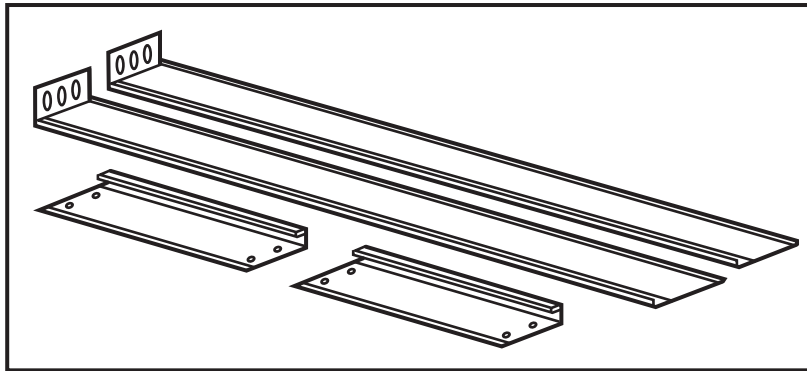
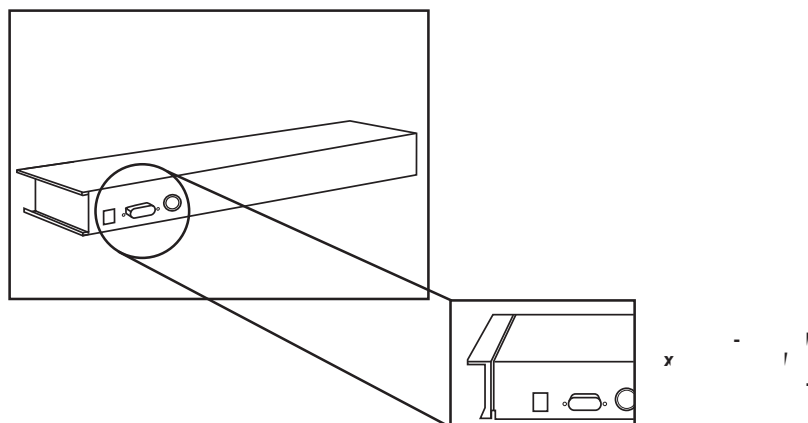

Figure 3-1. Rear brackets and extensions.
Figure 3-5. Back view of module with extensions attached.
2. Using four counter-sunk screws (not included), attach the extensions (included with our ServTra Kit) to both sides of the KVM switch module. See Figures 3-1 through 3-5. The side-edged plastic extension is on the top side (see Figure 3-5).